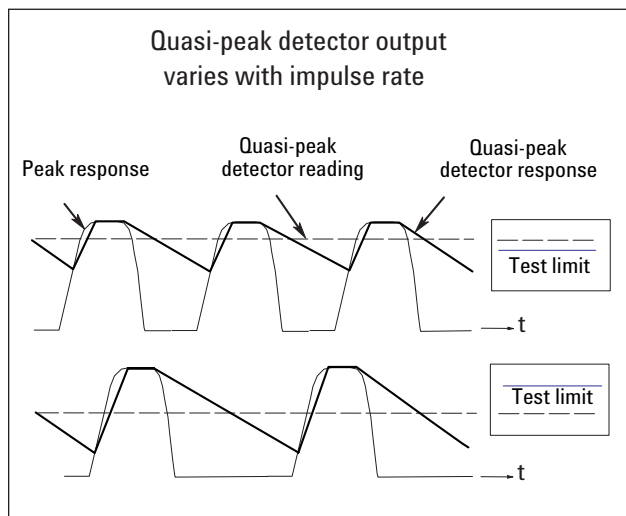

Figure D-2. Quasi-peak detector response diagram
Most radiated and conducted limits are based on quasi-peak detection mode. Quasi-peak detectors weigh signals according to their repetition rate, which is a way of measuring their annoyance factor. As the repetition rate increases, the quasi-peak detector does not have time to discharge as much, resulting in a higher voltage output. (See Figure D-2.) For continuous wave (CW) signals, the peak and the quasi-peak are the same.